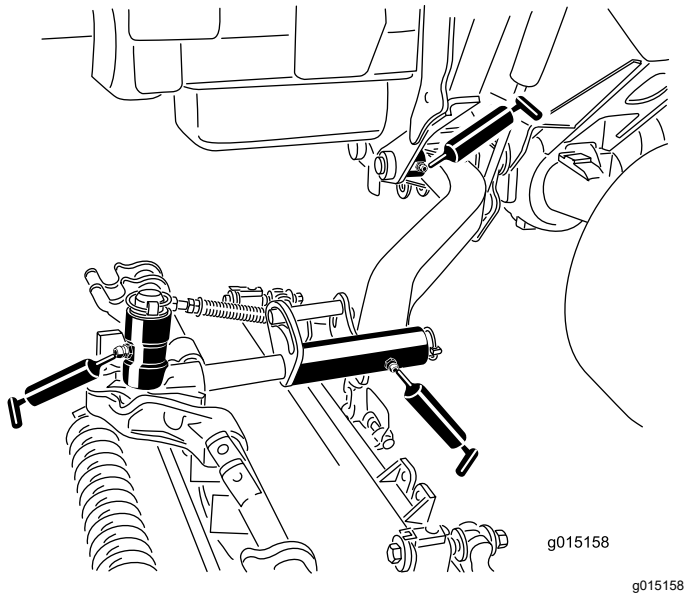

Figure 85
- Lift arm pivot bushings (1 per cutting unit) (Figure 85)
- Cutting unit carrier frame (2 per cutting unit) (Figure 85)
- Cutting unit lift arm pivot (1 per cutting unit) (Figure 85)